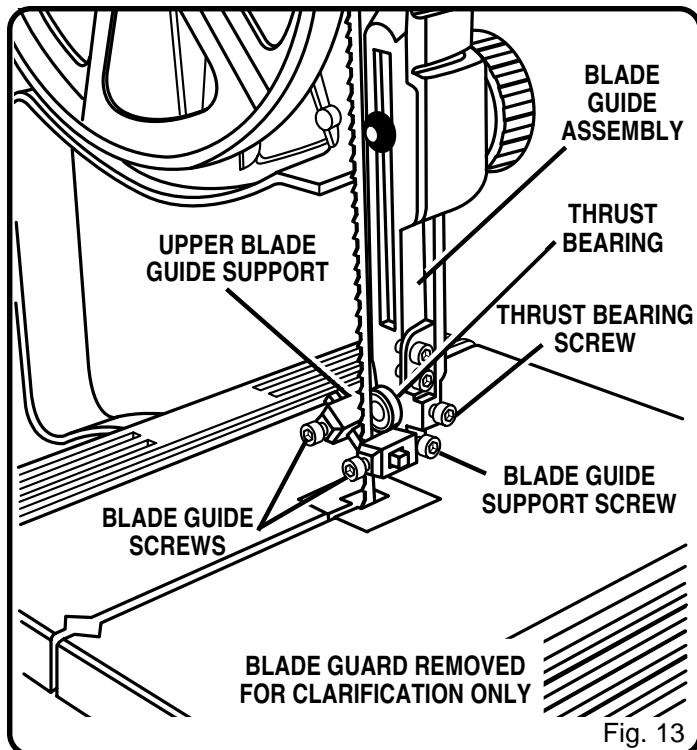

Fig. 13
See Figures 13, 14, and 15.
**Note:** The thrust bearing screw is the upper cap screw located on the right side of the blade guide assembly. It is the lower cap screw on the right side of the saw housing below the saw table for the lower bearing. See Figures 13 and 14.